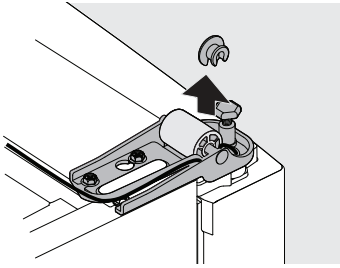

Figure 2
6. Route the gray cable and the connectors out from under the wheel axle and the wheel spacer (see Figure 2).